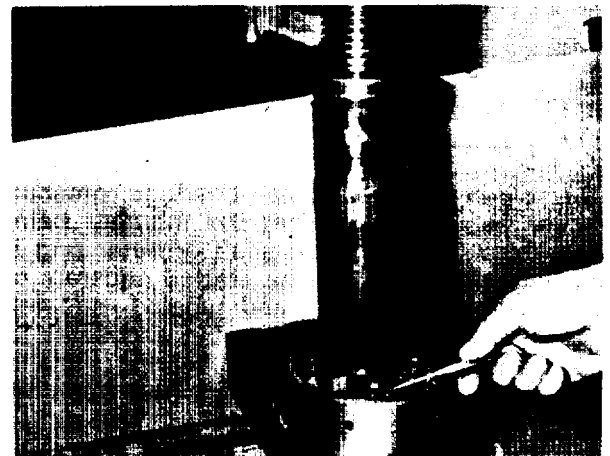

FIGURE 7-23.
a. Put the clutch cylinder under an arbor press and compress the springs with a set of bars. Remove the lock ring and unload the spring (see figure 7-23).
Make sure that the snap ring is securely seated in its groove (see figure 7-23).